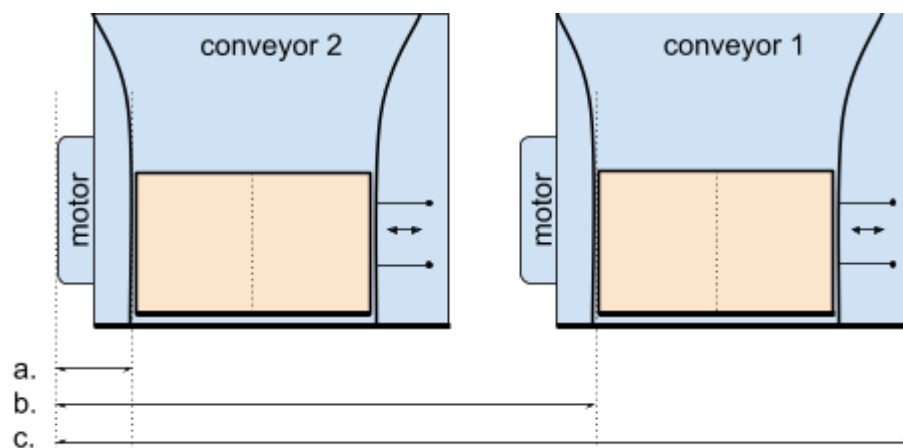

Figure 75: Measure the conveyor dimensions as if they were one big conveyor.
- Fixed guide width for conveyor 2, measured as in **figure 75**.
- Fixed guide width for conveyor 1, measured as b in **figure 75**.
- Measure *conveyor total width* from the left side of the left conveyor to the right side of the right conveyor. See total width for both conveyor 1 and 2, measured as c in **figure 75**.